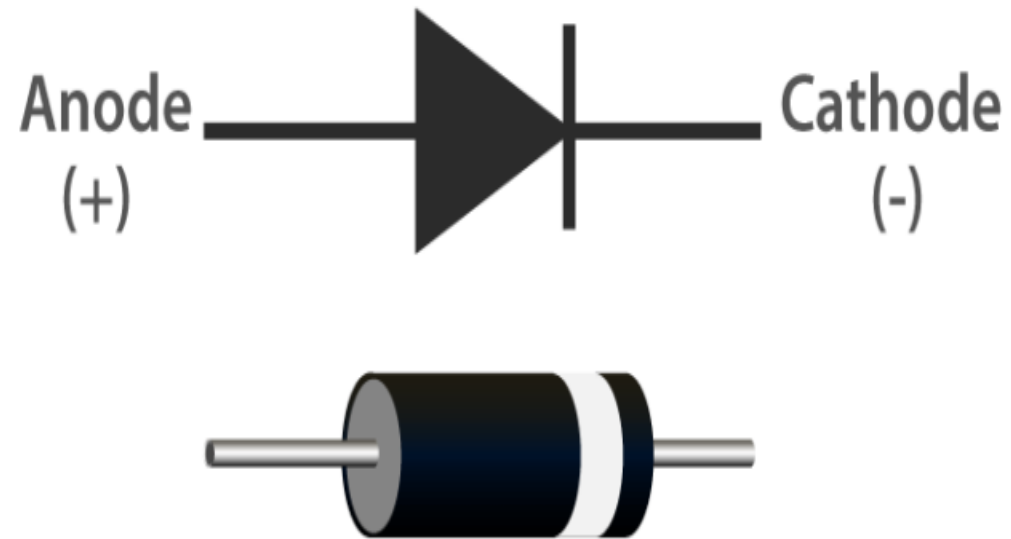

Fig. 1. Semiconductor diode symbol
- If you take a block of silicon and dope half of it with a trivalent impurity and the other half with a pentavalent impurity, a boundary called the pn junction is formed between the resulting p-type and n-type portions of a semiconductor diode Fig.1.